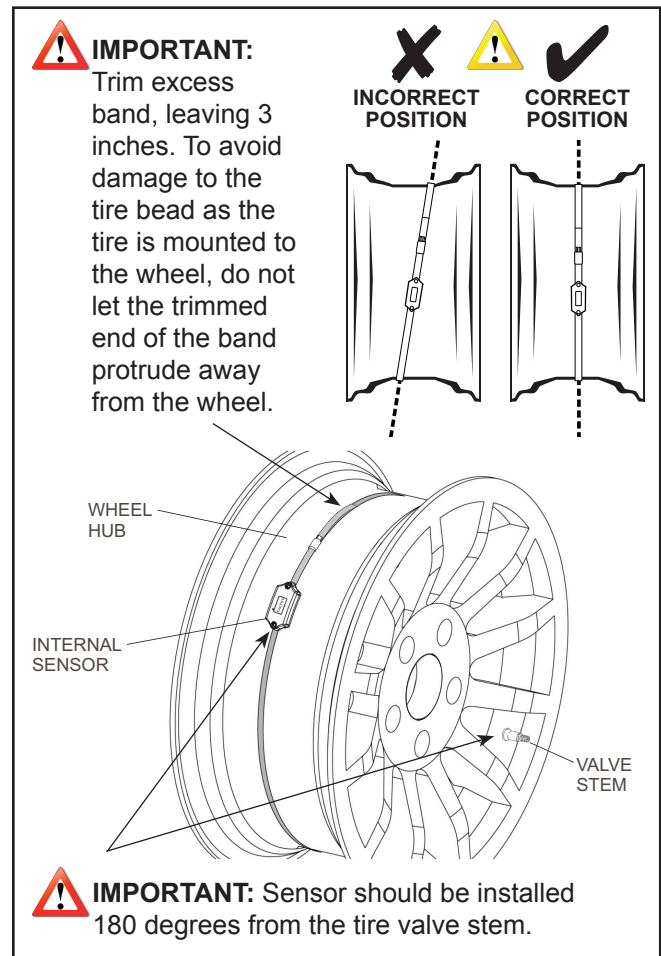

Figure 2: Internal Sensor Installed
! IMPORTANT: Sensor should be installed 180 degrees from the tire valve stem. See *Figure 2*.
5. Tighten the band clamp on the wheel hub. See *Figure 2*.
! IMPORTANT: Trim excess band, leaving 3 inches. To avoid damage to the tire bead as the tire is mounted to the wheel, do not let the trimmed end of the band protrude away from the wheel. See *Figure 2*.